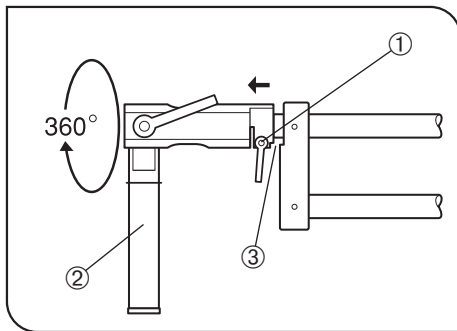

Fig. 22
7. To rotate the mount shaft ② around the horizontal shaft, loosen the horizontal shaft rotation clamping lever ①.
When the clamping lever ① is loosened and the distal end is withdrawn by 2 to 3 mm, the rotation stoppers ③ are disengaged. After rotating the mount shaft to the desired position, tighten the lever firmly to clamp the mount shaft again. (Fig. 22)
a. Loosen the horizontal shaft rotation clamping lever ①, withdraw the distal end of the arm by 2 to 3 mm, and rotate the distal end by 180° so that the mount shaft ② faces upward.
Then, while applying the distal end of the arm to the rotation stoppers, tighten the clamping lever ①. (Figs. 22 & 23)